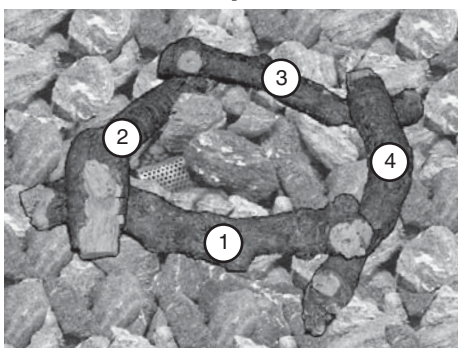

Fig. 15-2
1. Lay Log #1 across the volcanic stone, then lay the hooked part of Log #2 over one end of Log #1 at an angle of approximately 90 degrees (see Fig. 15-2).
2. Lay an end of Log #3 over the unattached end of Log #2 at a 90-degree angle (see Fig. 15-2).
3. Place one end of Log #4 over the open end of Log #3 and the other end underneath the open end of Log #1, creating a kind of square (see Fig. 15-2).